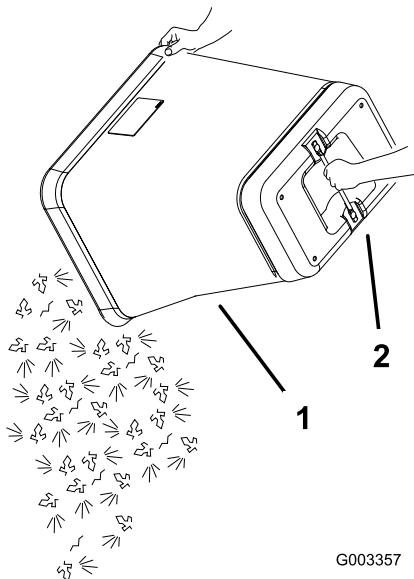

Figure 57
6. Grab the handle on the bottom of the bag and tip it over to empty the bag (Figure 57).